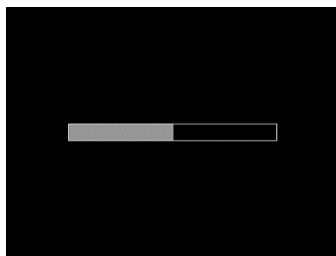

Figure 5-29 *Firmware Update screen*
- 4) Press **SETTING** button, then select **About**. Press **OK** button to enter About, select **Update** to upgrade the tool (Figure 5-29).